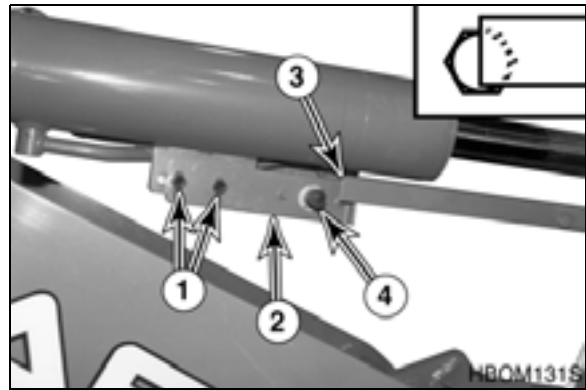

Figure 32
3. Loosen bolts (1, Figure 32) on bracket (2).
4. Position bracket (2, Figure 32) so that end of arm (3) is aligned with center of magnetic switch (4).
5. Tighten bolts (4, Figure 32).
6. Start engine. Raise boom, dump bucket, then move pilot control valve lever (joystick) into crowd detent position. Now lower boom and check to see that bucket has stopped at required position. A small readjustment of bracket (2, Figure 32) may be necessary.